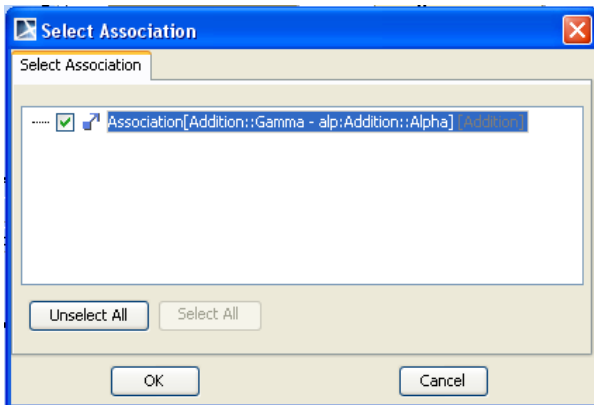

Figure 2.19 Select Association window
- i. On the Select Association window, check the box by the association and click OK. See Figure 2.19.